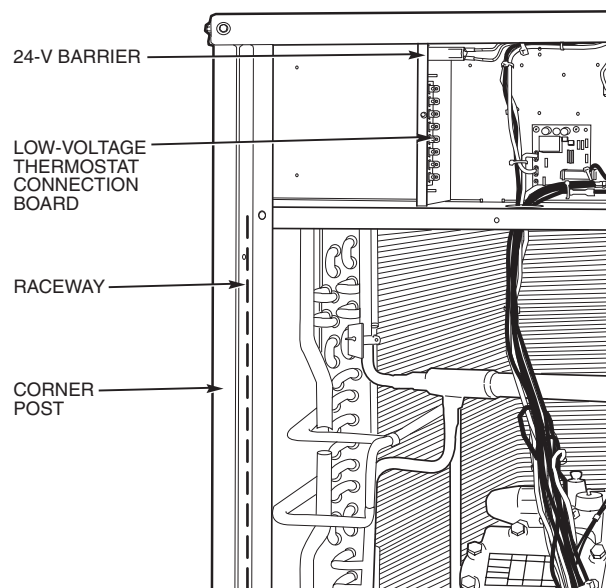

Fig. 7 — Field Control Wiring Raceway (38AKS Unit Shown)
2. Pass the control wires through the hole provided in the corner post. (See Fig. 7.)